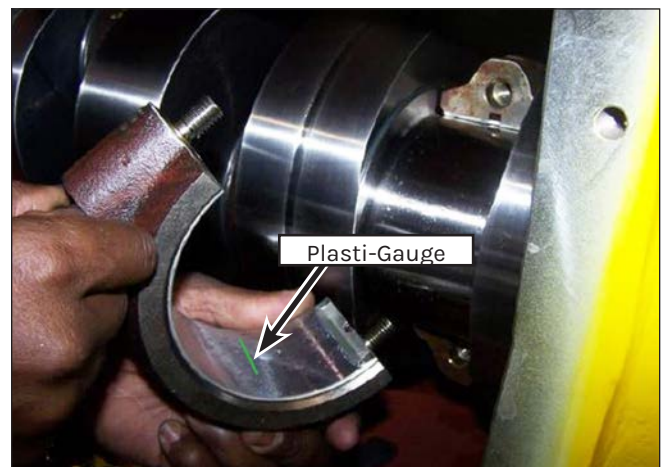

Figure 160: Plasti-Gauge Installation.
2. Install a small strip of plasti-gauge onto the end cap bearing (Figure 160).